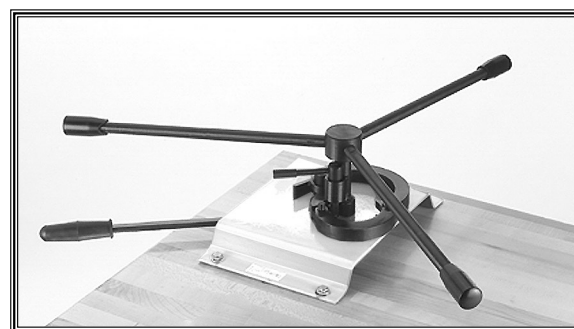

Figure 6. Scroll tool.
2. Attach the hand lever to the bottom of the scroll tool base as shown in **Figure 6**.